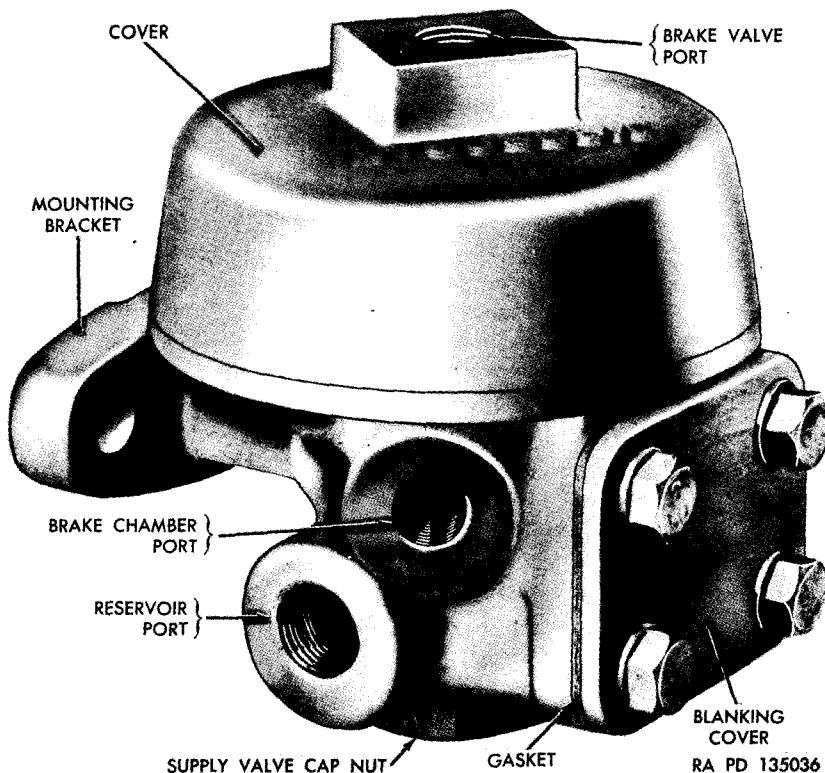

Figure 114. Type R relay valve.
a. The relay valve speeds up the application and release of the rear wheel brakes. It is controlled by the brake valve and keeps the air pressure in the rear brake chambers the same as the pressure being delivered by the brake valve. It reacts to even slight changes in pressure and raises, lowers, or completely exhausts the air pressure in the rear brake chambers as the brake valve raises, lowers, or completely exhausts air pressure from it. Two types of relay valves will be found in service—type R (fig. 114) and type R-1C (fig. 115). The valves differ in construction but both types answer the above description. Type R can be
b. Connect line 1 (fig. 71) to reservoir port of relay valve and open valves Nos. 2 and 3. Connect line 2 to brake valve port of relay valve. Connect line 4 to brake chamber port of relay valve. Plug other brake chamber port (figs. 114 and 115). Close valve 6 (fig. 71).